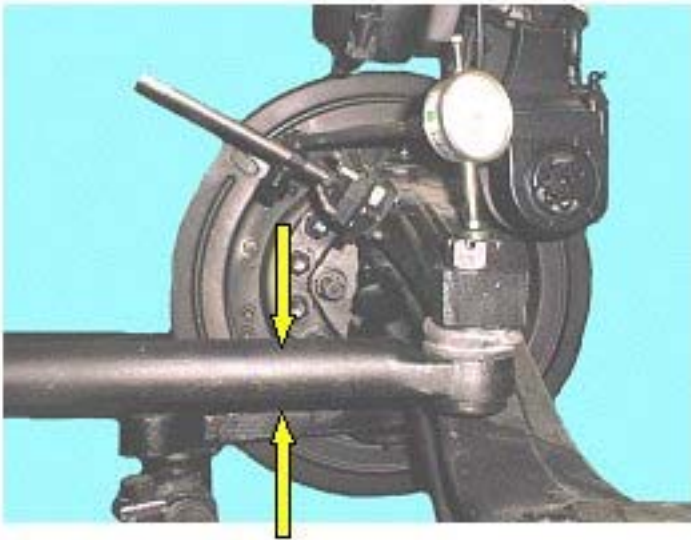

Figure 4 Figure 4
9. Push and pull the drag link in an up and down motion (as shown in Figure 4). If the dial indicator detects any movement, the steering knuckle will **need to be replaced**.